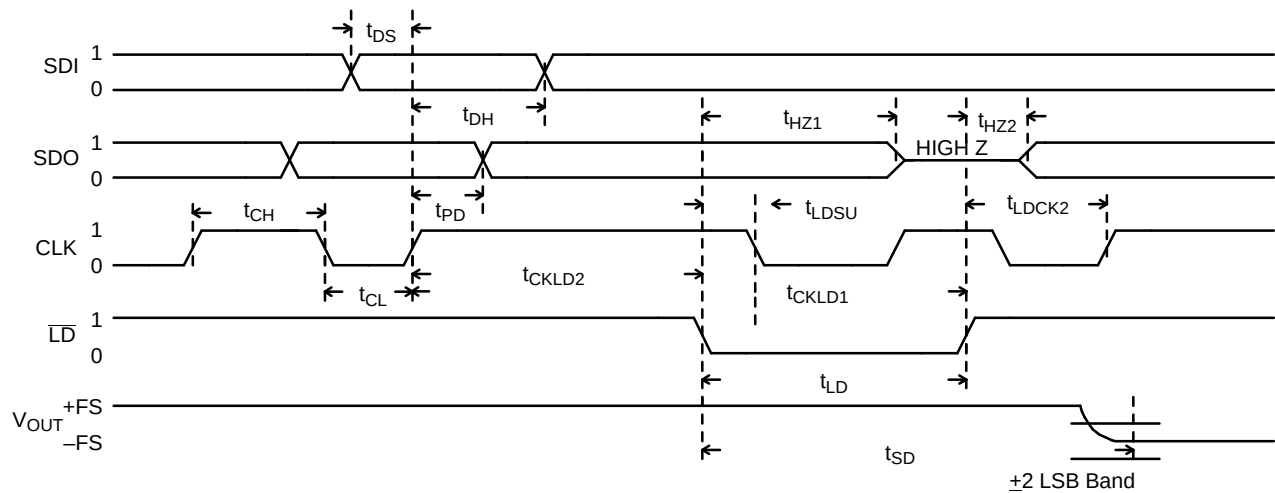

Figure 2. Serial Data Input Timing ($\overline{RST} = "1"$)
- See Figures 2 and 3. All digital input signals are specified with $t_{\text{R}} = t_{\text{F}} = 10$ ns 10% to 90% and timed from a 50% voltage level.